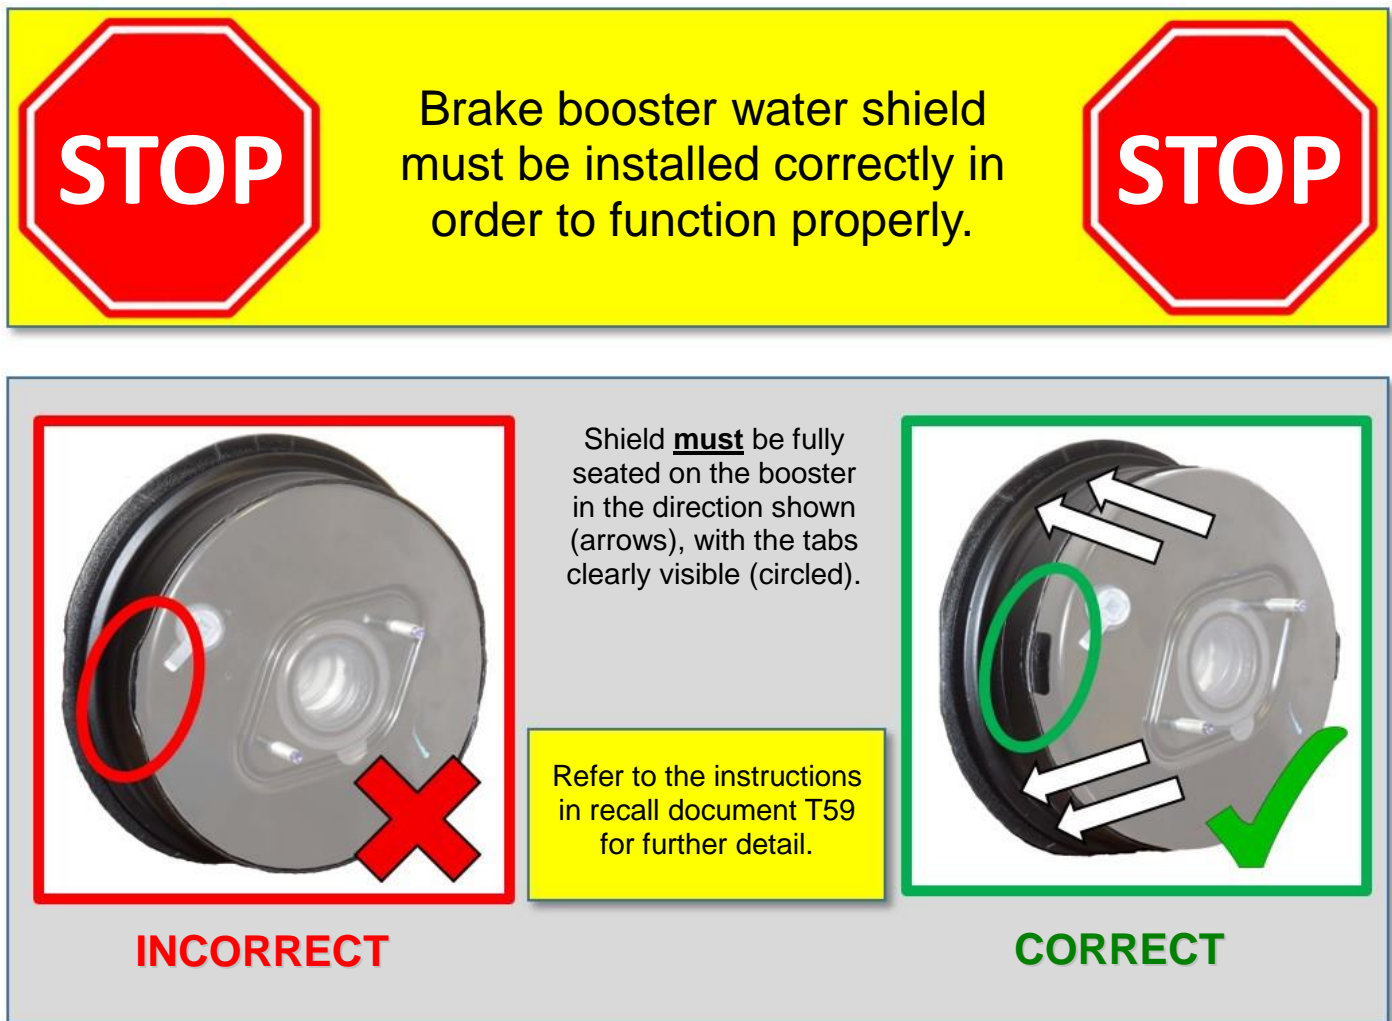

Figure 29 – Brake Booster Water Shield
21. **Ensure the water shield is installed properly on the new brake booster prior to brake booster installation.** If the water shield has shifted from proper position during shipping, reposition the shield back to proper position or replace the water shield if damaged during shipping (Figure 29).